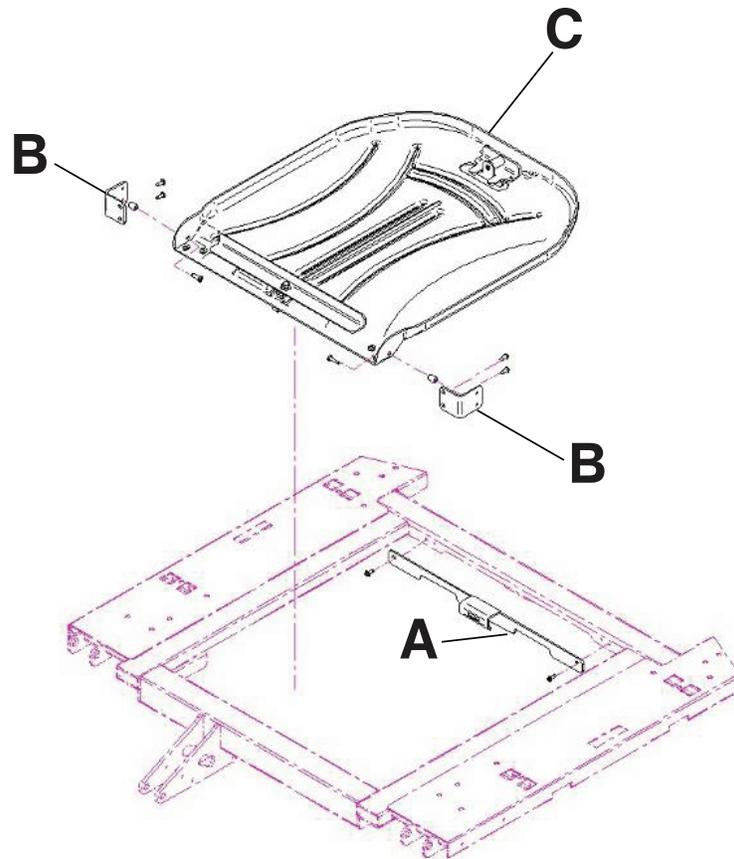

Figure 89: X-ray cassette holder
3. Turn the battery switch to the OFF (O) position.
5. Using a #2 Phillips screwdriver, install two screws to secure the fastener (A) to the top of the fowler frame (Figure 89 on page 88).
6. Using a #2 Phillips screwdriver, install four screws to secure the two cassette holder pivot brackets (B) into the lower fowler section (Figure 89 on page 88).
7. Using a #2 Phillips screwdriver, install two screws and two spacers to secure the X-ray cassette holder (C) into the cassette holder pivot brackets (B) (Figure 89 on page 88).